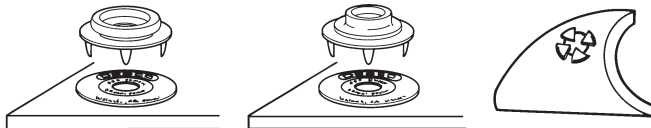

Figure 9. Installing push and clinch mat grounding snap.
B. Center the prongs on the snap assembly with the label. Apply pressure to the snap until the prongs come through the back of the mat, then clinch over prongs to secure snap as shown in Figure 9.